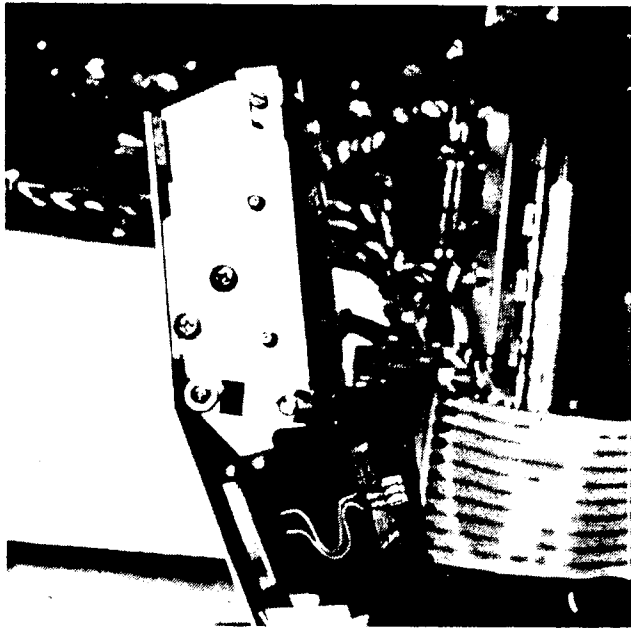
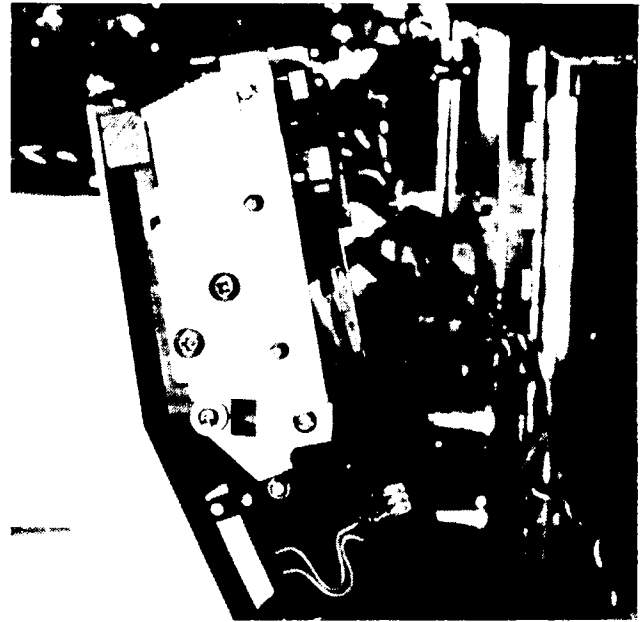

Figure 5-7
Figure 5-8
- 2) Change position of encoder/diverter by removing E-rings and both pivot rods. Remount encoder/diverter to channel using alternate hole in the encoder/diverter. See Figure 5-7 for the dollar version or Figure 5-8 for the nondollar version.
dollar spacer. See Figure 5-7 or Figure 5-8.